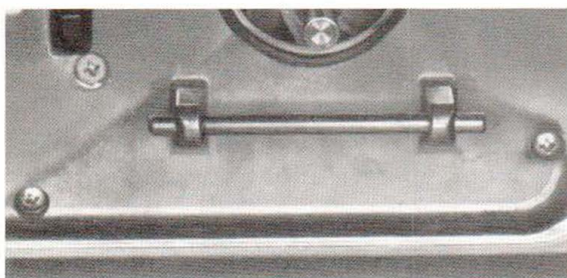

Figure 14. Fan Case Assembly Screw Removal
1. See Figure 14. Remove one flat head Phillips screw from front of fan case assembly. This screw is located just below rug nozzle interlock.